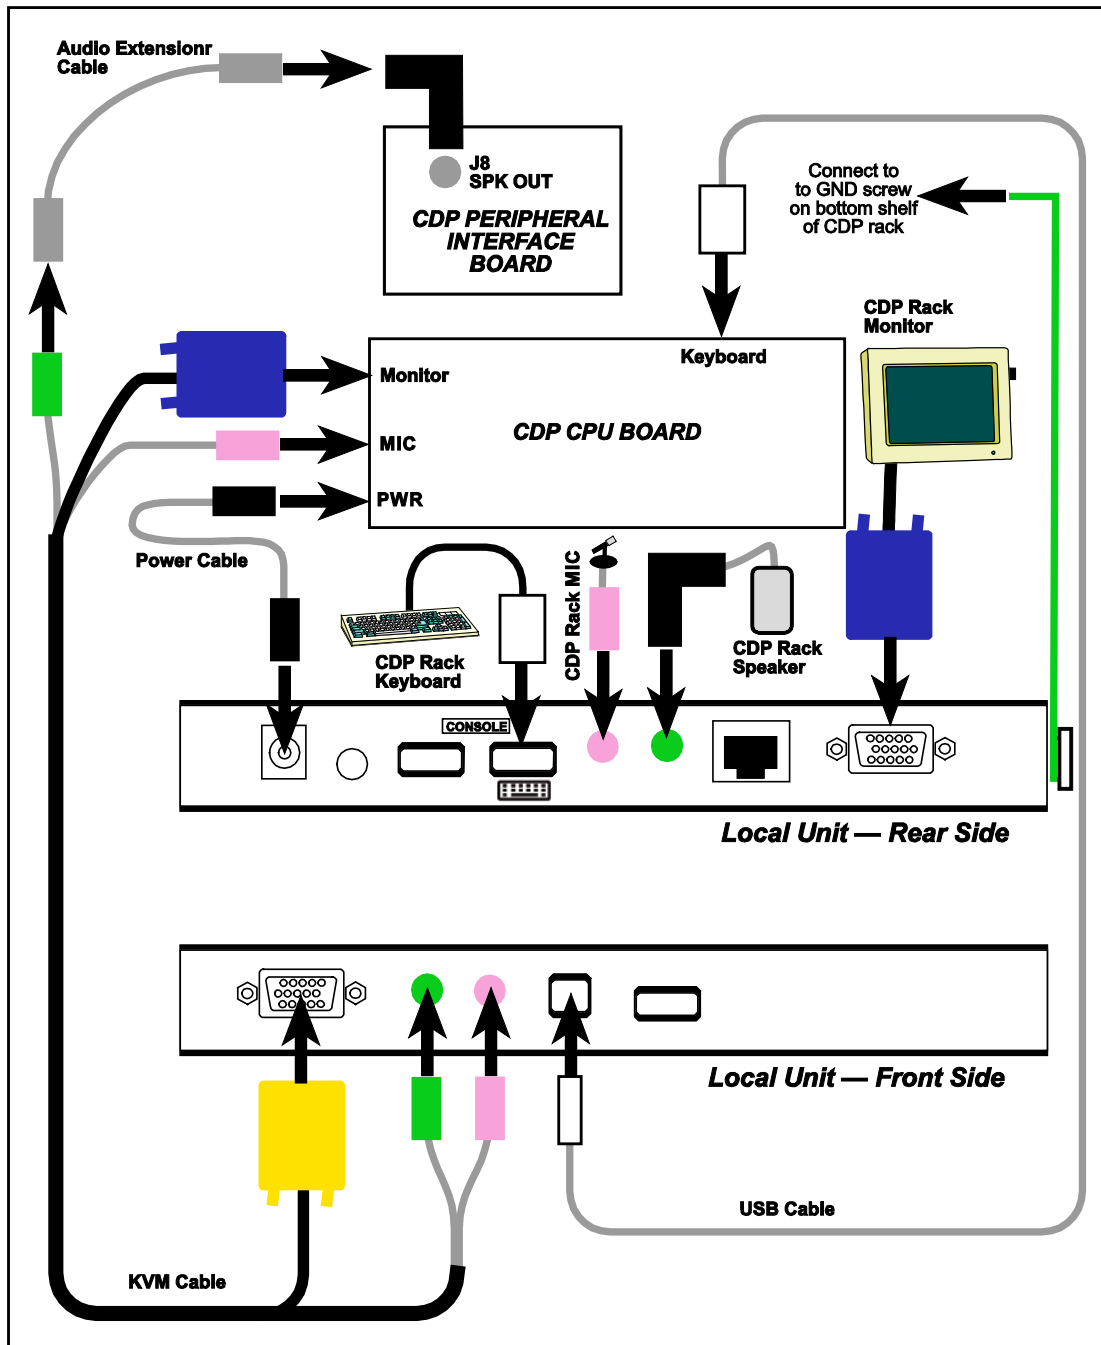
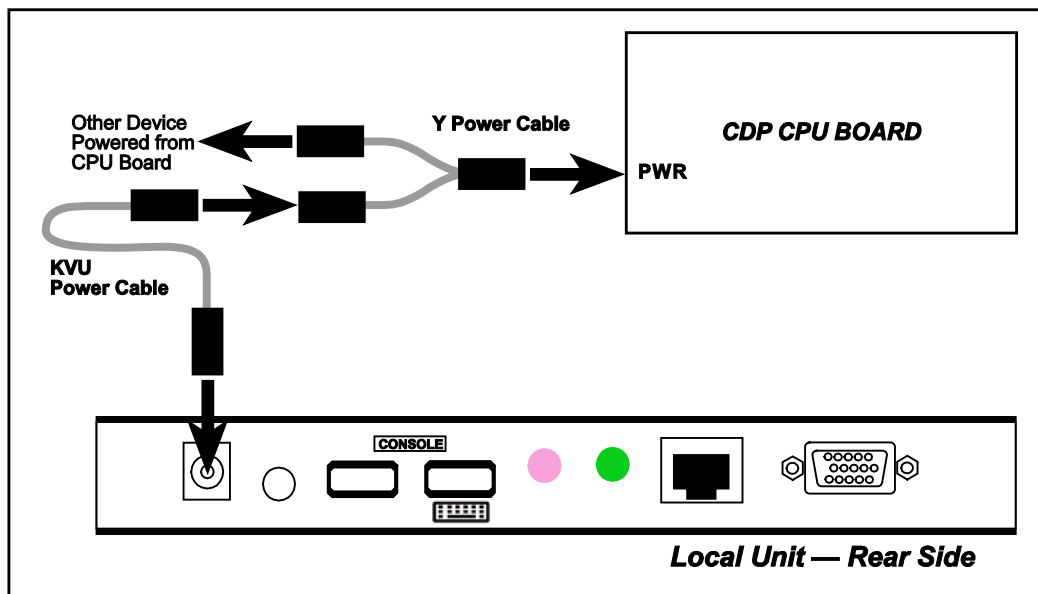
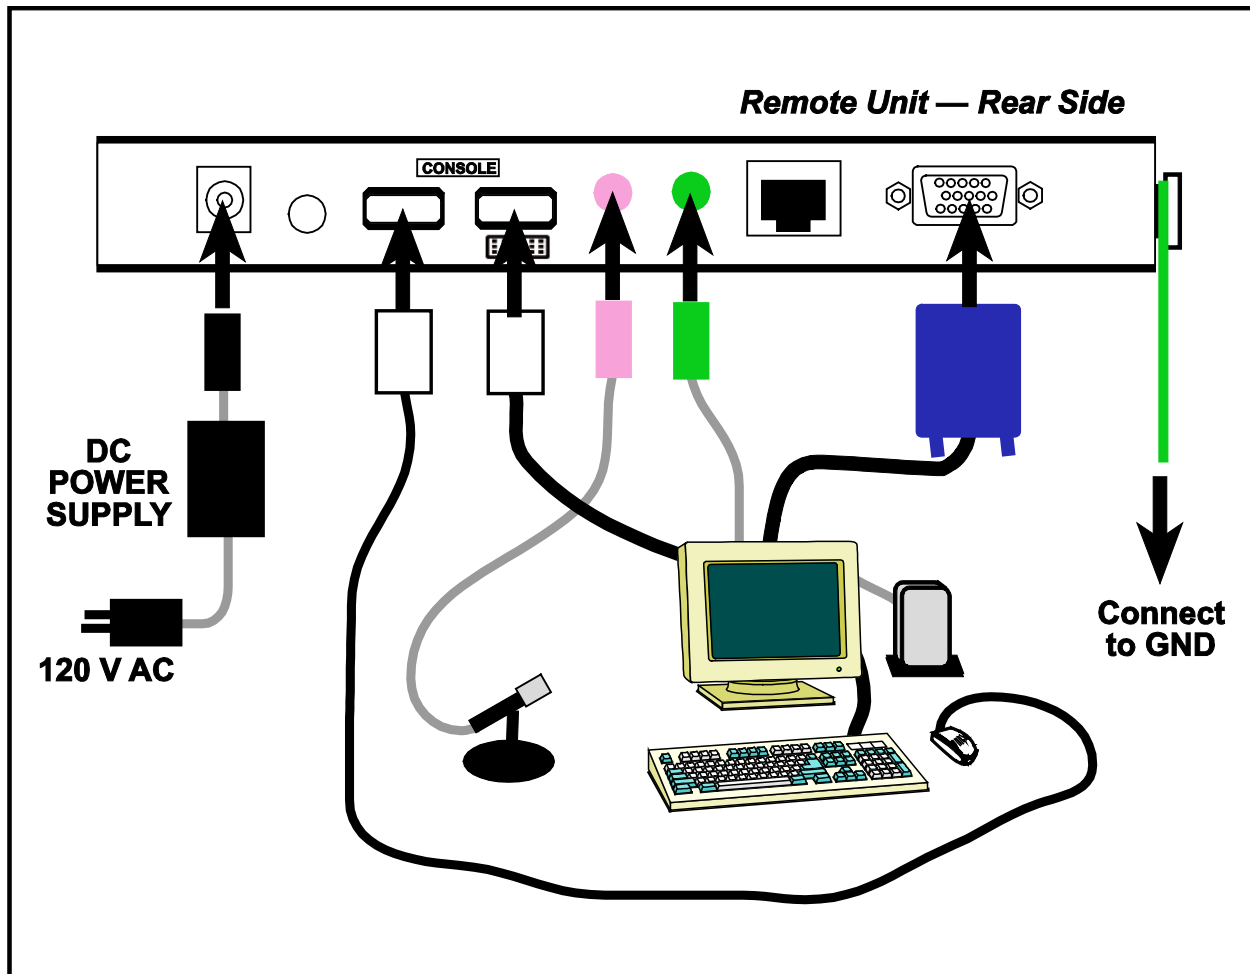

Figure 18. Local Unit Connections
Figure 23. Y-Cable Power Supply Adapter
Figure 24. Remote Unit Connections
The following steps summarized in Figure 18 describe the process to connect the Local Unit to the CDP. Care should be taken to keep all cables routed cleanly and added to cable bundles as necessary for neatness.
3. Connect the yellow connector on the KVM cable (see Figure 18) to the CPU connector on the front of the Local Unit.
- d. Figure 23 illustrates the use of the Y-cable discussed in this procedure.
The following steps summarized in Figure 24 describe the process to connect the Remote Unit to the CDP. Care should be taken to keep all cables routed cleanly and added to cable bundles as necessary for neatness.
1. Perform a visual inspection once the Local Unit and Remote Unit connections have been completed to make sure they match the connections shown in Figure 18, Figure 23 (if the Y-cable adapter was used), and Figure 24.